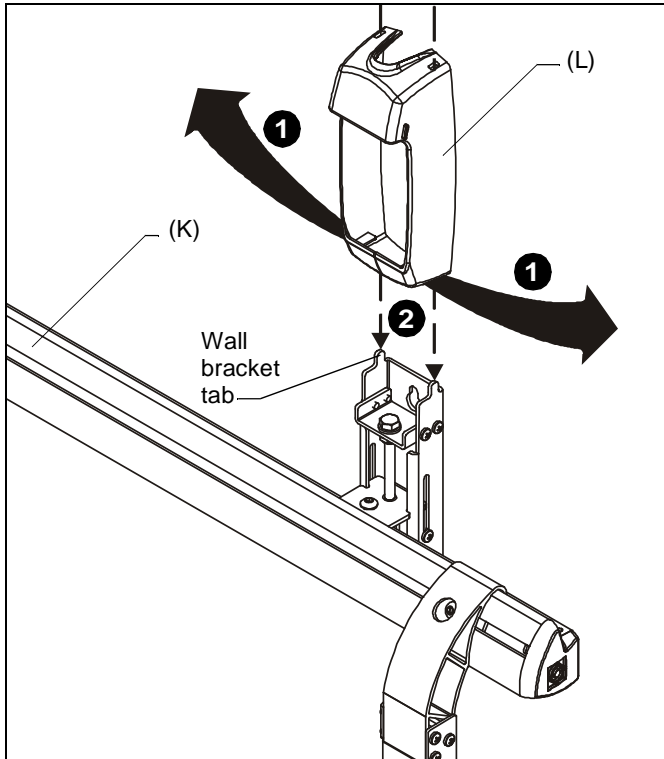

Figure 10
1. Open the lower flaps of the wall bracket cover (L) outward. (See Figure 10)
2. Slide the cover downward, hooking the top of the wall bracket covers (L) onto the tabs on top of wall assembly brackets. (See Figure 10)
3. Slide the lower flaps of the wall bracket cover (L) under the bottom of the wall assembly brackets (K). (See Figure 10)